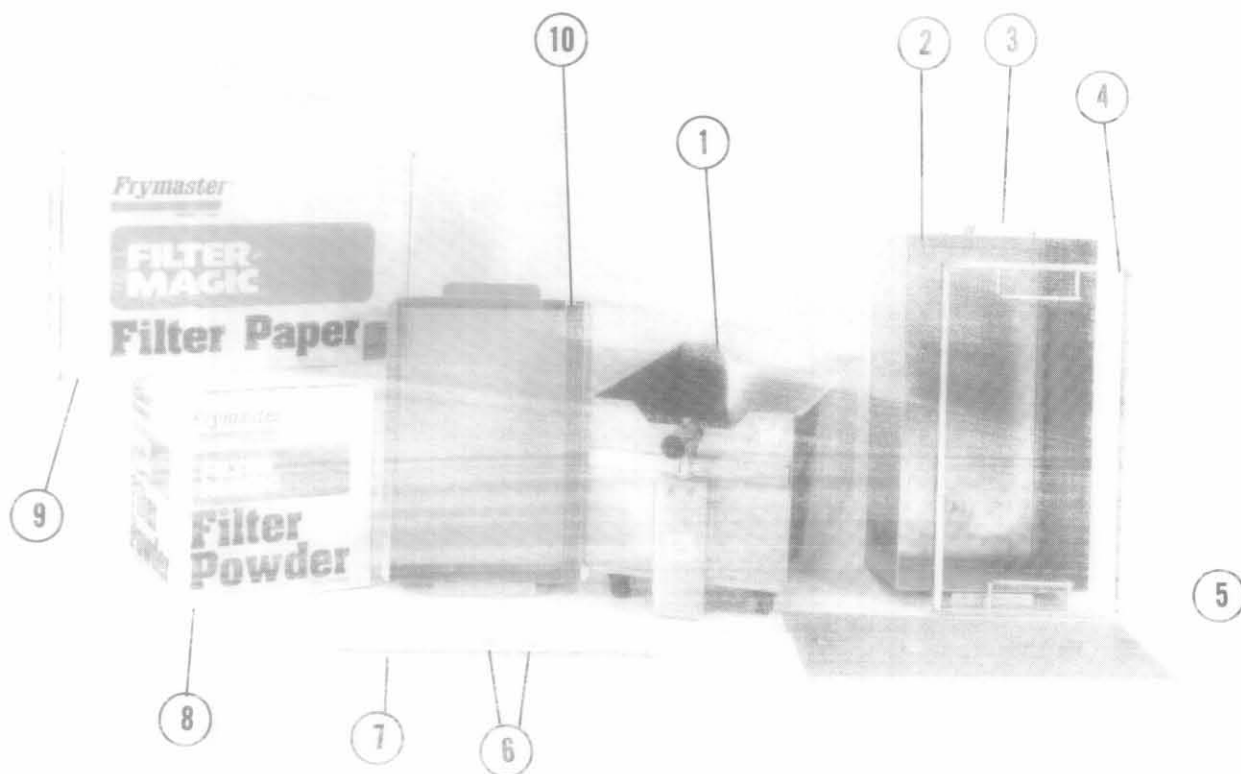

Figure 15-A
16. PARTS LIST (CONT'D)-FILTER MAGIC II (Refer to Figure 15-A)